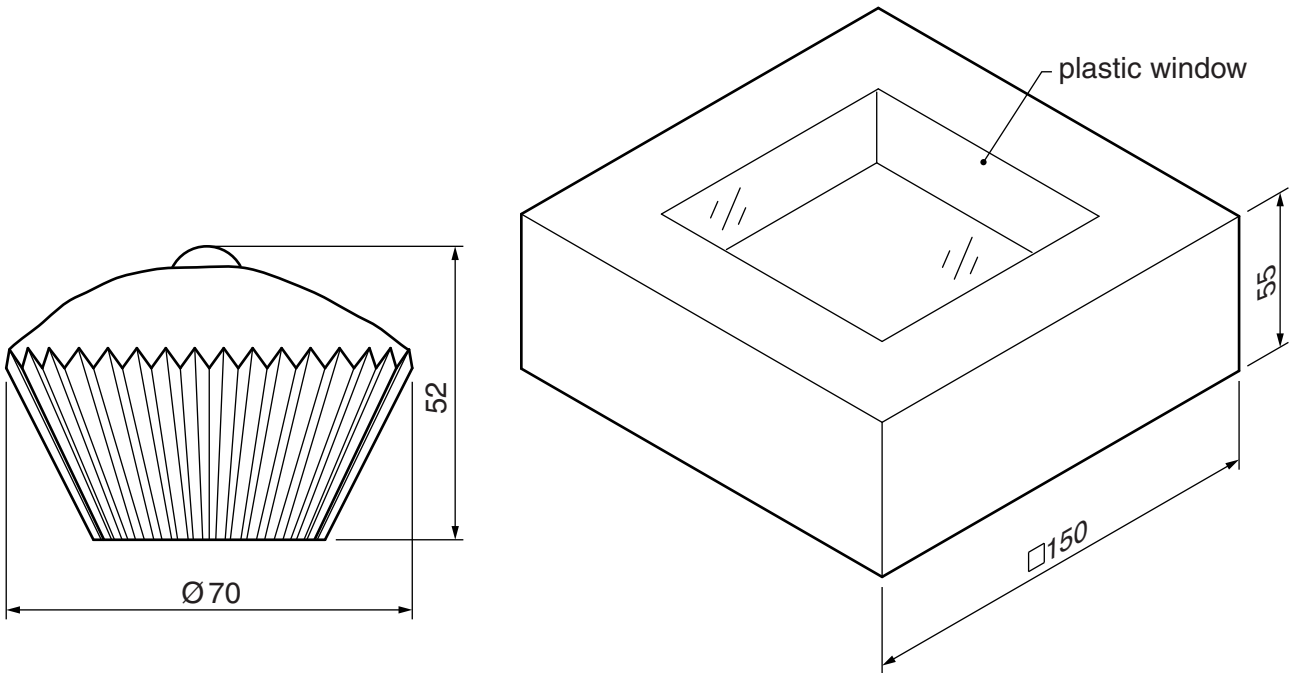

Fig. 8
- 8 Fig. 8 shows a cake and an incomplete idea for a card box which will package four of them.